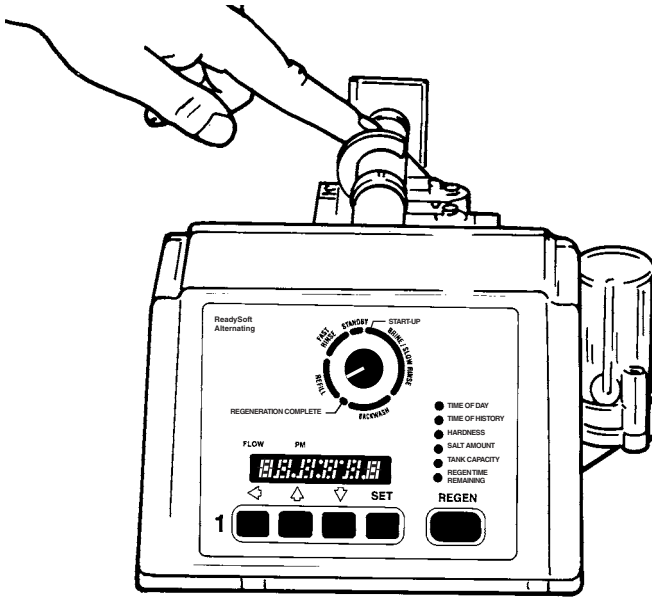

Figure 16
- To remove the camshaft or re-install it, the rib on the shaft must be pointing straight up. This occurs when the indicator knob is rotated to the refill position. Press down on the back of the camshaft to disengage it from the rear "hoop" of the top plate, Figure 16.